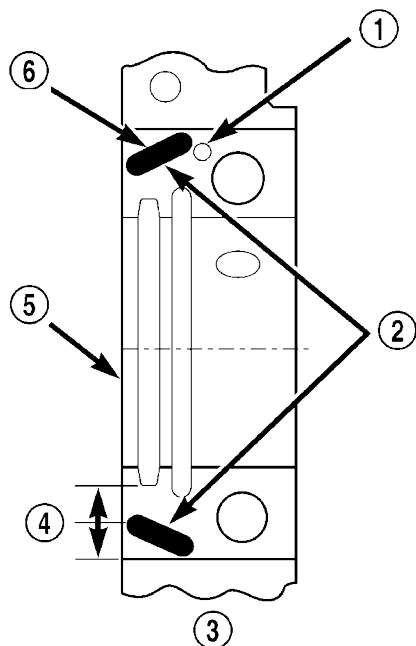

Fig. 54 Location of Sealer
(1) Wipe the seal surface area of the crankshaft until it is clean.
(2) Apply a thin coat of engine oil.
(3) Coat lip of the seal with engine oil.
(4) Carefully position the upper seal into the groove in the cylinder block. The lip of the seal faces toward the front of the engine.
(5) Apply Mopar® Gasket Maker sealer on both sides of cylinder block as shown in (Fig. 54). The dab of sealer should be 3 mm (0.125 in.) in diameter.
(6) Apply Mopar® Gasket Maker on the rear bearing cap (Fig. 54). The bead should be 2.3 mm (0.09 in.) in diameter. DO NOT apply sealer to the lip of the seal.
(7) Position the lower seal into the bearing cap recess and seat it firmly. Be sure the seal is flush with the cylinder block pan rail.
(8) Coat the outer curved surface of the lower seal with soap and the lip of the seal with engine oil.